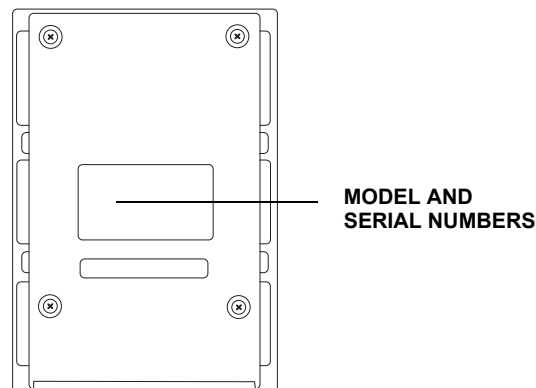

Figure 9 Information Labels on Unit Bottom
- 1 Gather the following information from the printed labels (see Figure 9) on the bottom of each unit to be returned:
- VeriFone serial number assigned to the unit you are returning for service or repair (serial numbers are located on the bottom of the unit, see Figure 9).